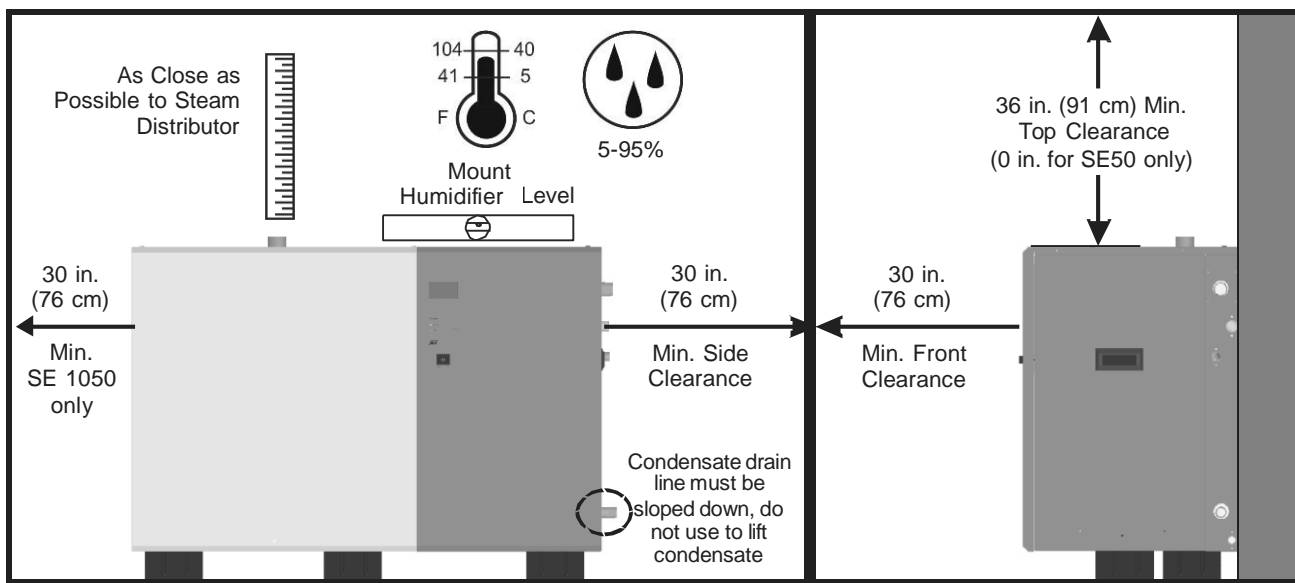

Figure 6: Installation Location / Clearance
- Install in a location where regular maintenance can be performed. Provide clearance as shown in Figure 6: Installation Location / Clearance.